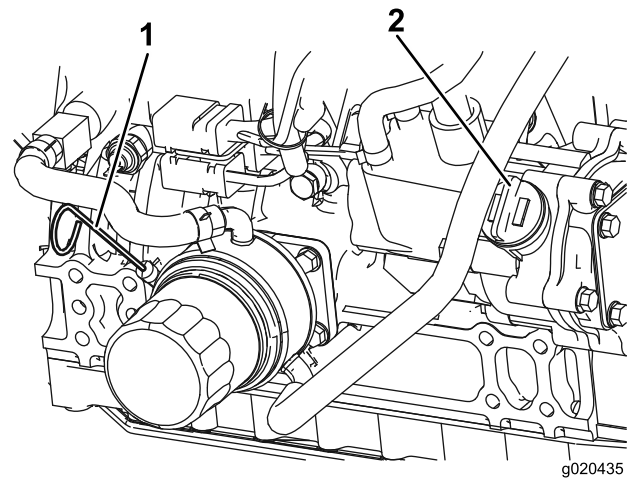

Figure 10
3. Remove the dipstick, wipe it clean, install the dipstick into the tube, and pull it out again. The oil level should be up to the Full mark (Figure 10).
4. If the oil is below the Full mark, remove the fill cap (Figure 10) and add oil until the level reaches the Full mark. **Do not overfill.**